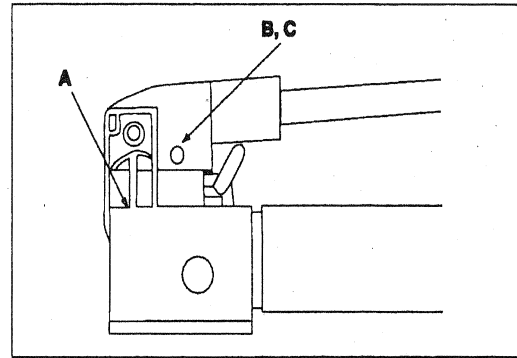

Figure 10
To extend pump life and improve performance, lubricate the beam pin (A), cross pin (B), and piston head (C) regularly, using roller bearing grease. See Figure 10.